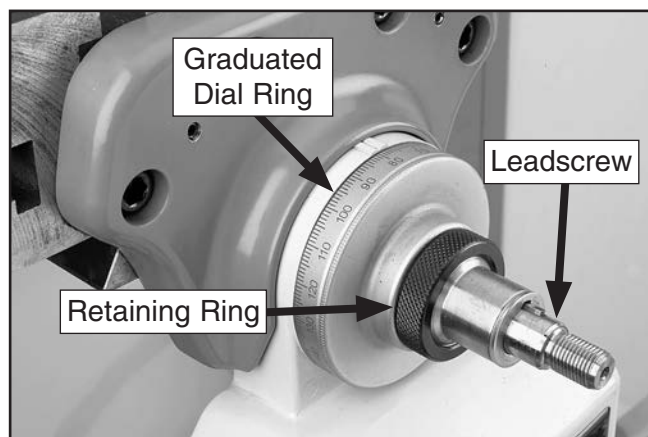

Figure 59. Power feed ball handle removed.
2. Remove the hex nut and ball handle from the power unit end of the X-axis leadscrew (see **Figure 59**).